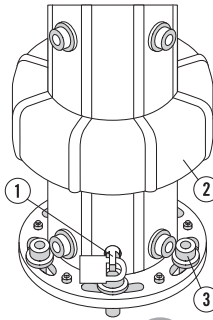

Fig. 10
- Remove connecting bolts (1) and push up cover (2) (Fig. 10).
- Hold sunshade firmly upright while removing anchoring screws (3).